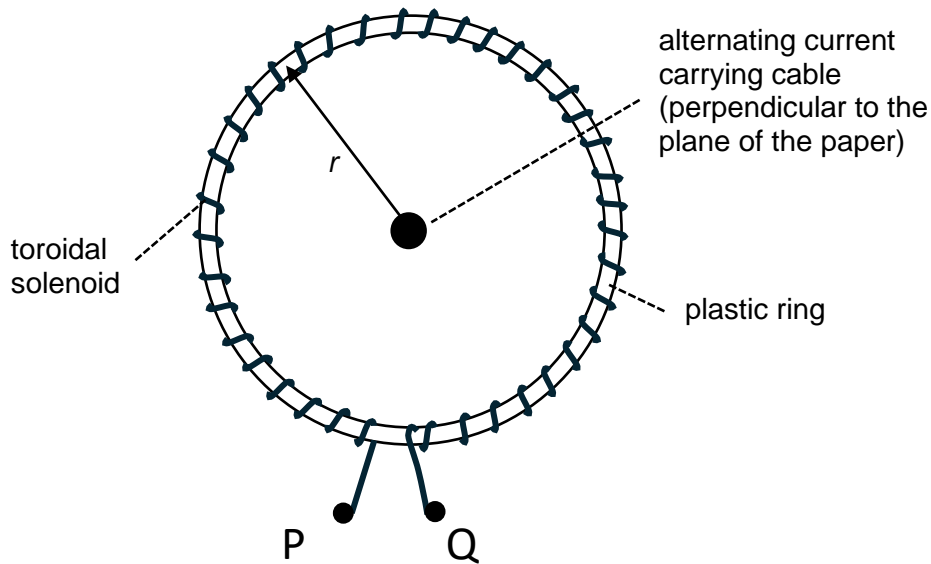

Fig. 6.1
- 6 A toroidal solenoid is used to determine the presence of alternating currents in cables without being electronically connected to it. It consists of a wire being wound on a plastic ring. The alternating current carrying cable is placed along the axis through the centre of the device as shown in Fig. 6.1.